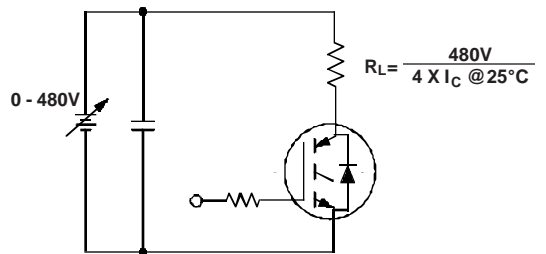

Figure 20. Pulsed Collector Current Test Circuit
① Repetitive rating; $V_{GE}=20V$, pulse width limited by max. junction temperature. (See fig. 20)
- ① Repetitive rating: $V_{GE}=20V$; pulse width limited by maximum junction temperature (figure 20)